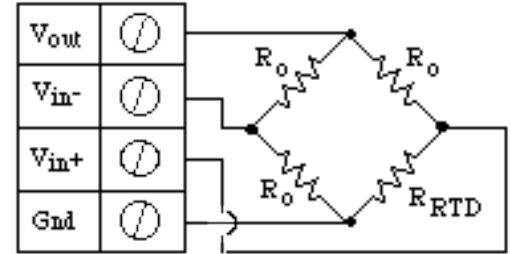

Fig 3.14 - Temperature Measurement (RTD) Bridge Circuit
Temperature measurement using an RTD in a bridge circuit involves wiring an RTD as one leg of a full-bridge circuit, applying a voltage across the bridge, and measuring the voltage across the two intermediate bridge nodes via a pair of instruNet Vin+ and Vin- input terminals. The excitation voltage for the bridge is supplied by either the instruNet Vout terminal or by an external voltage source. In figure 3.14 R_{RTD} is an RTD and R_O is a resistor of known, similar, value. instruNet calculates the value of the temperature, returning degrees Celsius engineering units, using the equations:
8. Wire your voltage source per figure 3.14, and refer to the steps at the beginning of this chapter for more information on how to set up your sensor. To reduce noise, 0.001 seconds of integration is often helpful (i.e. set the Integrate field in the Hardware setting area to 0.001).^{5,10}